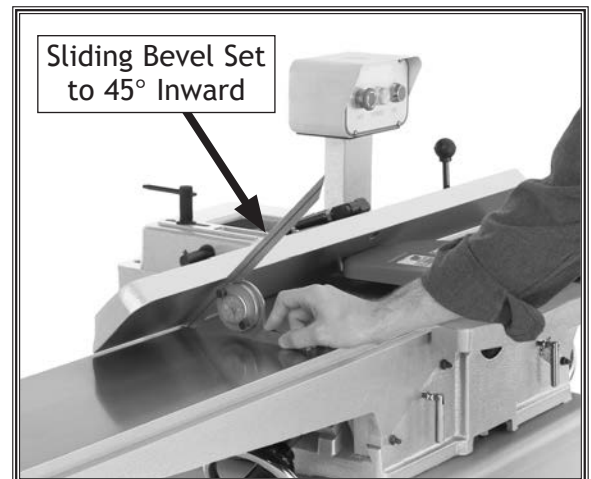

Figure 54. Example of adjusting fence to 45° inward.
3. Place sliding bevel set to 45° against fence and table, as shown in **Figure 54**.